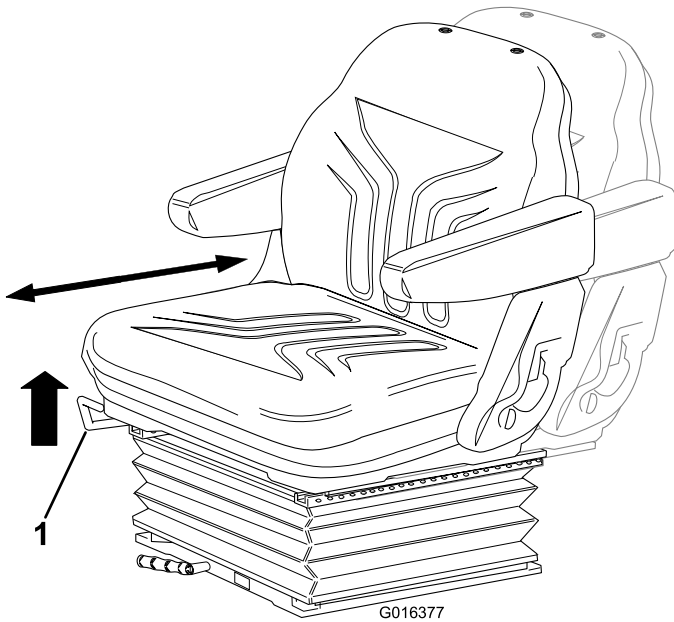

Figure 7
- **Fore/Aft Adjustment:** Move the lever upward to adjust the fore/aft position of the seat. Release the lever to lock the seat in position (Figure 7).